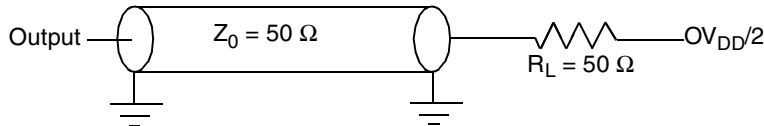

Figure 30. AC Test Load for the JTAG Interface
1. All outputs are measured from the midpoint voltage of the falling/rising edge of t_{TCLK} to the midpoint of the signal in question. The output timings are measured at the pins. All output timings assume a purely resistive 50-Ω load (see Figure 30). Time-of-flight delays must be added for trace lengths, vias, and connectors in the system.
2. The symbols used for timing specifications herein follow the pattern of $t_{(first\ two\ letters\ of\ functional\ block)(signal)(state)\ (reference)(state)}$ for inputs and $t_{(first\ two\ letters\ of\ functional\ block)(reference)(state)(signal)(state)}$ for outputs. For example, $t_{JTDV KH}$ symbolizes JTAG device timing (JT) with respect to the time data input signals (D) reaching the valid state (V) relative to the t_{JTG} clock reference (K) going to the high (H) state or setup time. Also, $t_{JTDX KH}$ symbolizes JTAG timing (JT) with respect to the time data input signals (D) went invalid (X) relative to the t_{JTG} clock reference (K) going to the high (H) state. Note that, in general, the clock reference symbol representation is based on three letters representing the clock of a particular functional. For rise and fall times, the latter convention is used with the appropriate letter: R (rise) or F (fall).
Figure 30 provides the AC test load for TDO and the boundary-scan outputs.
Figure 30 provides the AC test load for the I²C.
Figure 30 provides the AC test load for PCI.